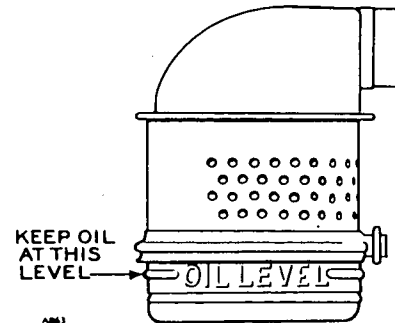

FIGURE 26. OIL BATH AIR CLEANER
1. Loosen bottom clamp, remove cleaner base and clean, Figure 26.